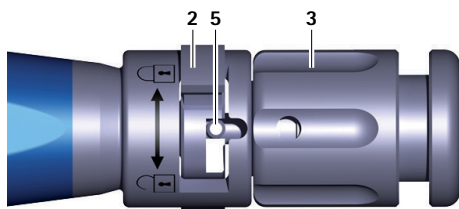
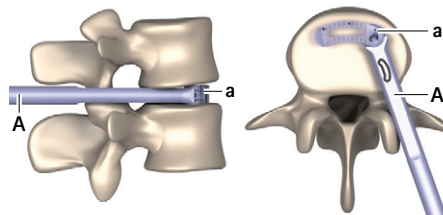

Fig. 3 Close-up view of the insertion instrument, switch closed
Fig. 11 Implant in end position
- Turn the switch 2 to the right (↻ direction), see Fig. 3.
- Turn the rotary nut **3** counterclockwise ("forward" direction), until the pin **5** is fully in the switch **2**, see Fig. 3. When doing so, ensure that the pin **5** does not jam the switch **2**.
- Turn the switch **2** to the right (↷ direction), see Fig. 3.
- As soon as the end position (see Fig. 11) is reached: Turn the rotary nut **3** counterclockwise ("forward" direction), until the pin **5** is fully in the switch **2**, see Fig. 3. When doing so, ensure that the pin **5** does not jam the switch **2**.
- ▶ Turn the switch **2** to the right (↻ direction), see Fig. 3.